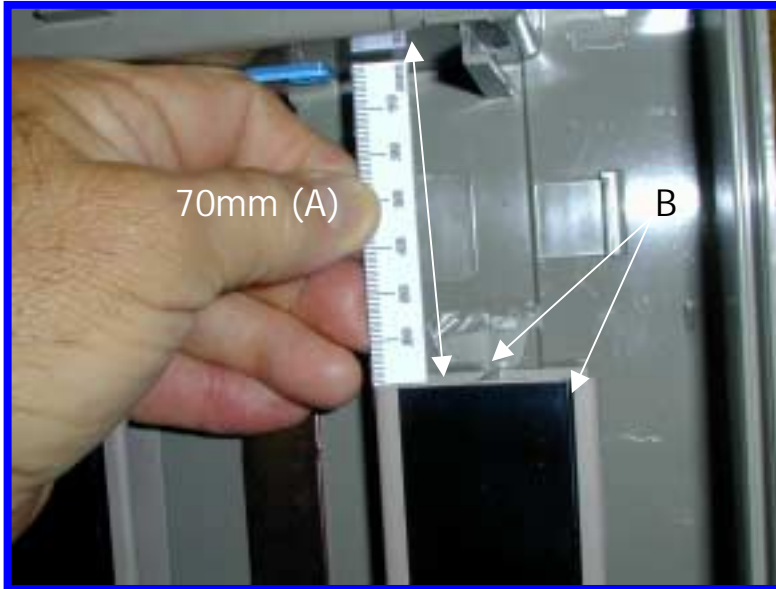

Figure 1
Top, currency guide rails must be trimmed to provide 70mm clearance between the rail and the inside front of the cassette (A) Figure 1. Measure 70mm, mark rails and cut rails and black inserts. Reinstall Rails.